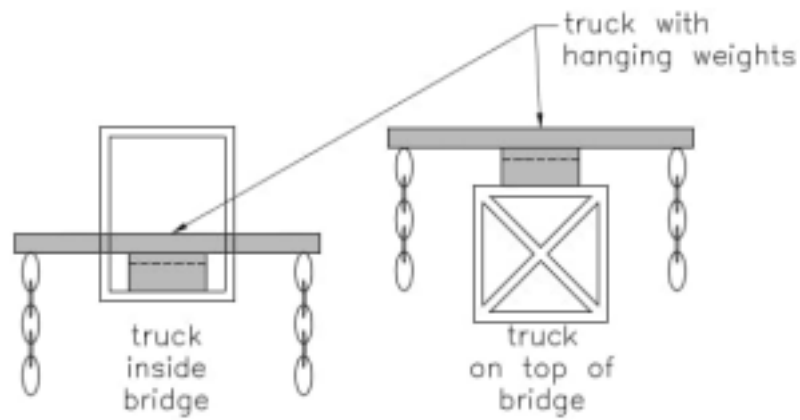

Figure 3a: Different Ways to Load the Bridge - Section
- The bridge shall have a roadway that either runs through the bridge or runs over the top side of the bridge. The roadway must be along the entire length of the bridge so that a scale truck (4” wide by 4” tall by 8” long, with a transfer bar above, **see figure 3A and 3B**) could drive from start to end over or through the bridge. The roadway does not need to be a continuous surface, but make sure there are strong supports for the truck to be placed at any point along the bridge roadway length!
Figure 3a is a section view of the truck inside and on top of the bridge.